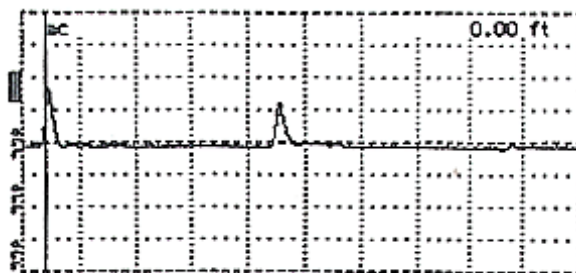

Figure 24-2 Transmitted and Reflected Pulses
The 24 connectors on the DLU end of the cables are labelled P1 through P24 and should be installed as shown in Fig. 24-2. Connector 1 goes to the first port of the DLU which is at the bottom of the board. The male AMP is connected to the 66 Block.
2. Connect the RJ-45 terminated end of the DLU cable by matching the labeled terminations with the corresponding board position indicated in Fig. 24-2.